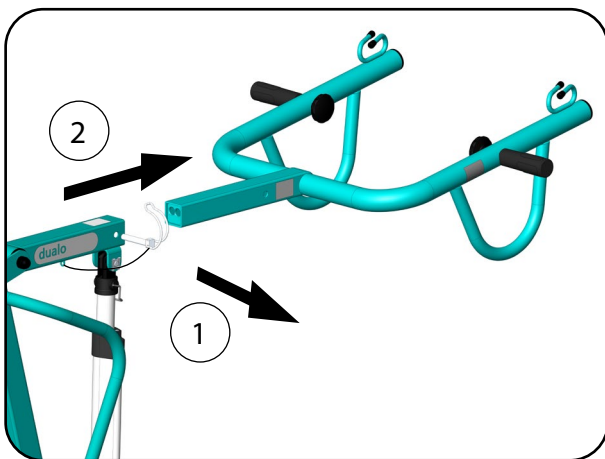

Fig. 8.9.01 – Removing the active smart lifting arm
1. Remove the tube clip from the lifting arm holder (Fig. 8.9.01).
2. Pull the active lifting arm out of the lifting arm holder and put it to one side (Fig. 8.9.01).